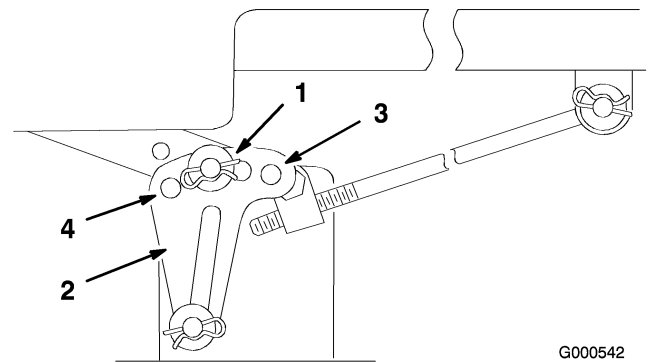
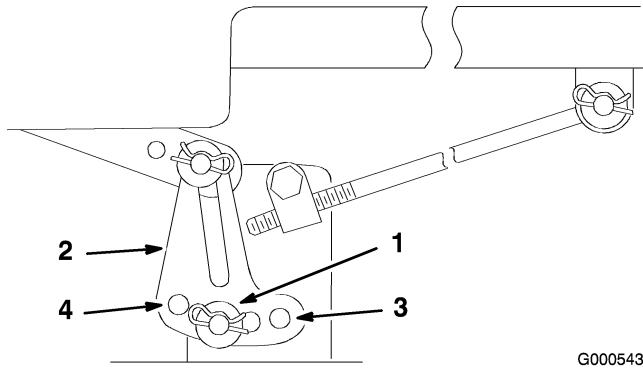

Figure 44
Figure 45
6. Remove the hairpin cotter and washer from the leveling bracket (Figure 44).
7. To level the blade(s), reposition the leveling bracket(s) in a different hole and install the washer and hairpin cotter. (Figure 44 and Figure 45). A front hole lowers the blade height and a rear hole raises its height. Adjust both sides as required.